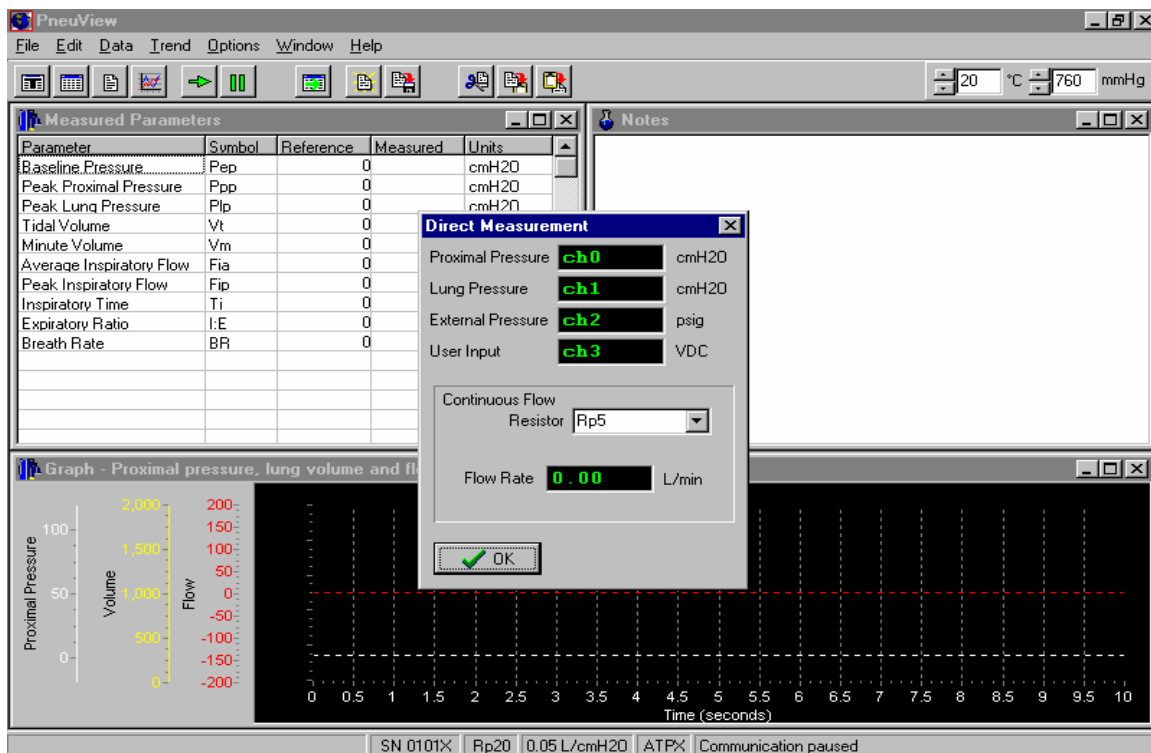

Figure 21 – Direct Measurement Window
*See Figure 21 on page 26 for Direct Measure Display.*